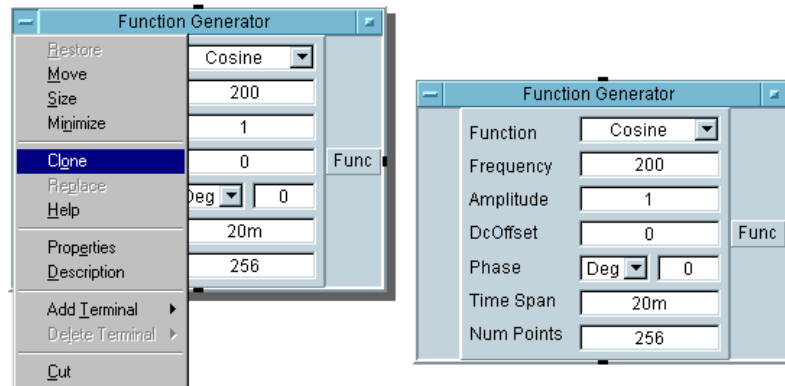

Figure 1-10. Cloning an Object
2. Move the outline to the desired location, and click to place the object. The cloned object appears, while the original object remains. In Figure 1-10, the **Function Generator** has already been cloned once, and the object menu has the command selected to clone it again.